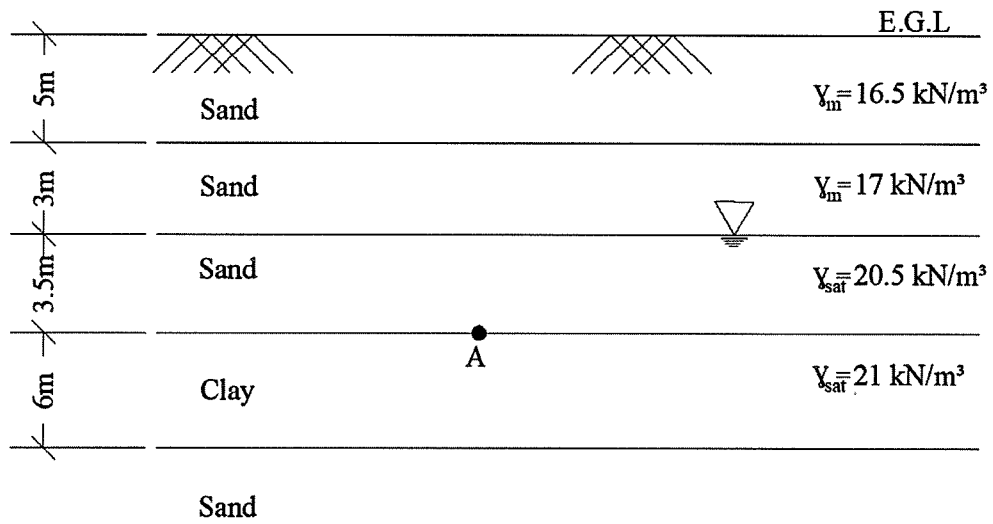

Figure-4
- c. The following figure (Figure-4) shows a soil profile with different layer properties. Calculate the total stress, pore water pressure and effective stress at point A. [5]